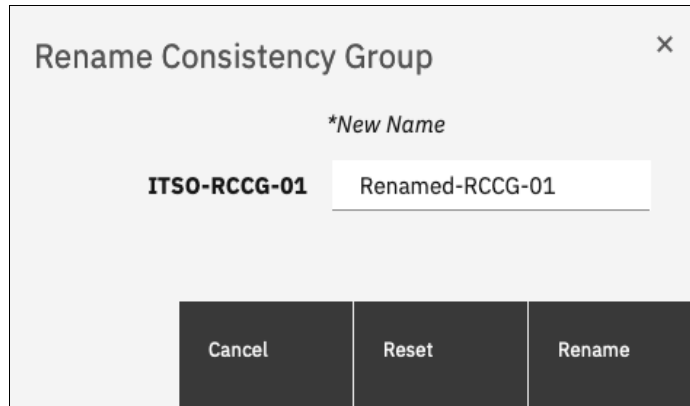

Figure 10-129 Entering a new name for a consistency group
3. Enter the new name that you want to assign to the consistency group and click **Rename**, as shown in Figure 10-129.